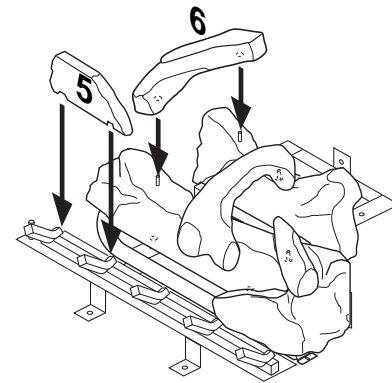

Figure 44 - Installing Logs No. 5 and No. 6
5. Place log #5 (base log) onto the front left part of the grate making sure the notches fit over the prongs of the grate). See Figure 44.
6. Place log #6 (left log) onto two pins on the left side of back and front log. See Figure 44.